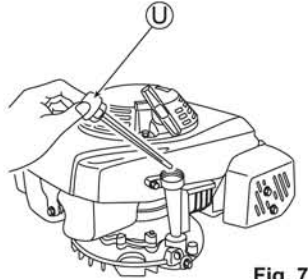

Fig. 7
1. Remove Oil tank cap (U), pull out the oil gauge, and then insert it not screwing it. (See Fig. 7)
2. Remove Oil tank cap (U), and confirm that the oil level is between the upper and lower limits of the oil gauge.
4. Firmly close Oil tank cap (U) after confirmation.